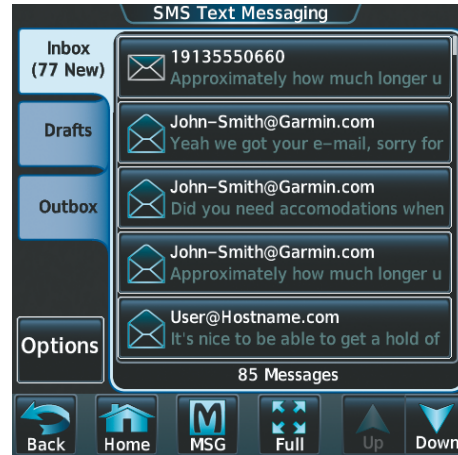

Figure 8-84 Touch Desired Message
- 2) Touch the desired text message in the Inbox list as in Figure 8-84. If necessary, scroll to the desired message. The text message is displayed as in Figure 8-85.